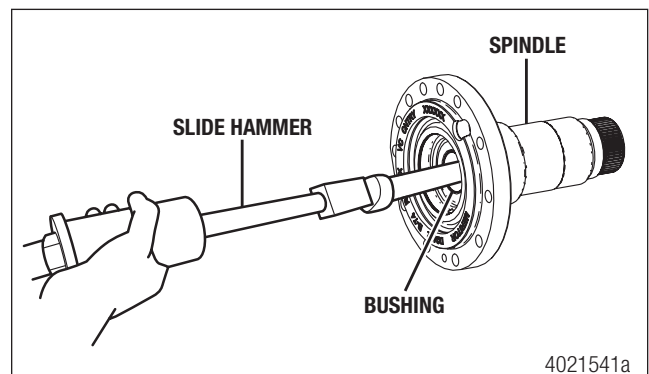

Figure 6.15
8. Inspect the axle shaft bushing in the spindle for wear or damage and replace it if necessary. Use a slide hammer to remove the bushing. Figure 6.15.